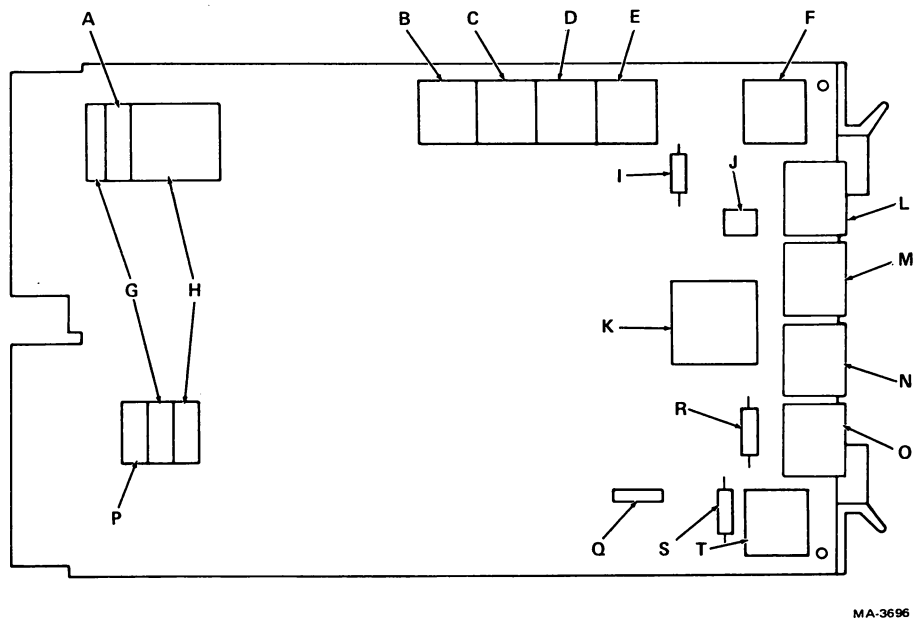

Figure 1. Sample Test Item DLV11-J
1. Area "E" on the drawing (Figure 1) is the location for the: